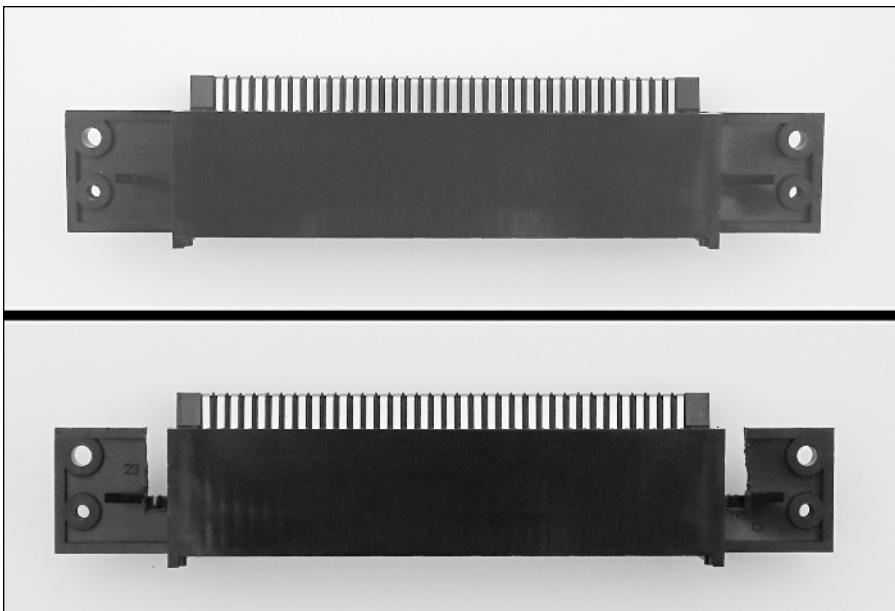

FIGURE 8-5: A NES cartridge connector, before and after hacking.
1. You'll first need to remove some plastic from the sides of the main cartridge-edge slot on the NES end (near the screw holes, as shown in Figure 8-5). The top photo shows the standard cartridge slot, and the bottom photo shows it after it's been hacked.